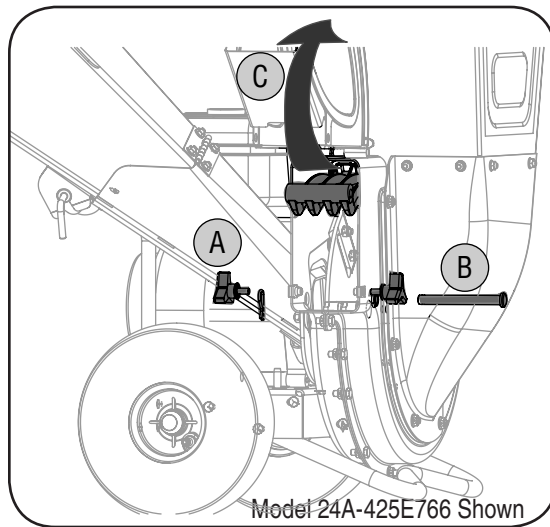

Figure 5-2
- a. Remove the chipper chute support brace from the frame by removing the two hex bolts and saddle washers which secure it. See Figure 5-2.
- b. Remove the chipper chute by removing three hex nuts and washers which secure it to the impeller housing. See Figure 5-2.